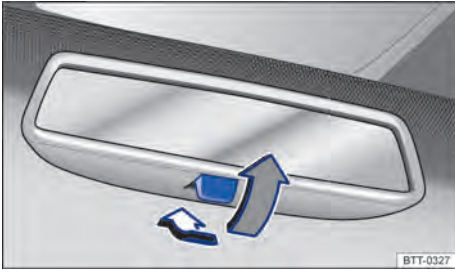

Fig. 79 On the windscreen: manual anti-dazzle interior mirror.
- Night position: pull the lever → Fig. 79 (grey arrow), to avoid glare from the headlights of vehicles travelling behind.